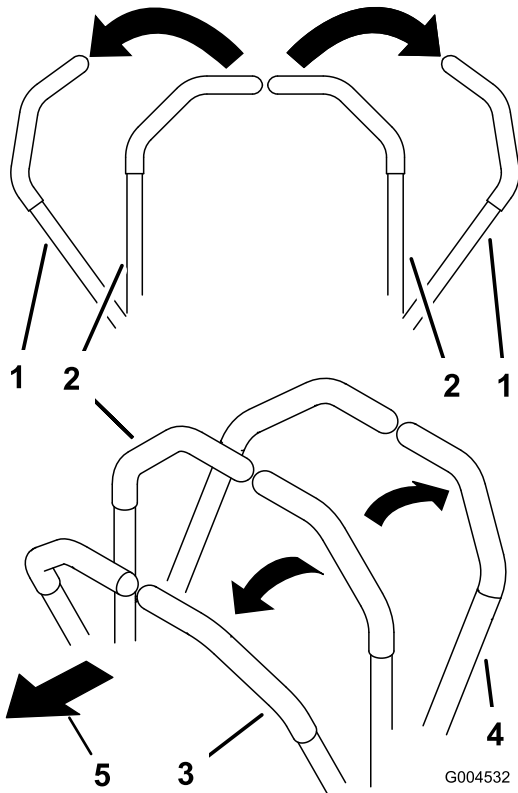

Figure 26
- To move straight forward, slowly push the motion-control levers forward (Figure 26).
- To move straight rearward, slowly pull the motion-control levers rearward (Figure 26).
- To turn, slow the machine by pulling back on both levers and then push forward on the lever on the opposite side from which you want to turn (Figure 26).